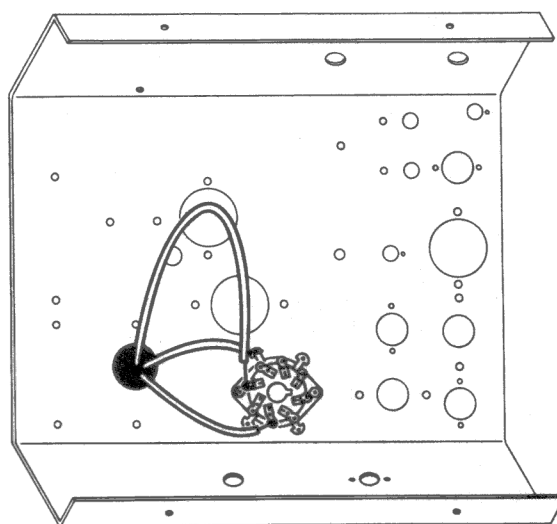
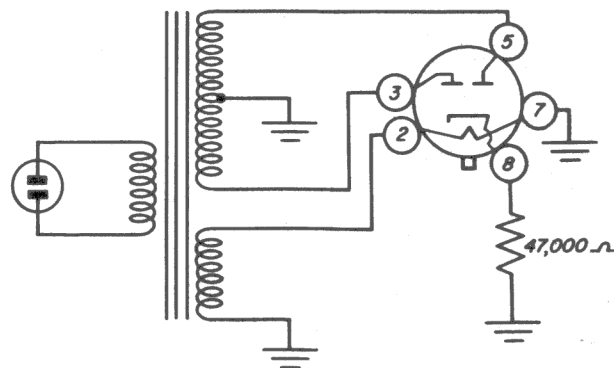

Fig. 17-11
Fig. 17-12
Step 1. Unsolder the free end of the high-voltage secondary from the terminal strip and solder it instead to terminal 5 of the tube socket. Do not cut it; use the entire length of wire and make a temporary connection. If this is correctly done, one red high-voltage secondary lead should be connected at terminal 3 and the other red high-voltage secondary lead to terminal 5 of the tube socket, while the red and yellow lead should still be connected to chassis ground. Your wiring should look like that shown in Fig. 17-11. The schematic diagram of the full-wave power supply is shown in Fig. 17-12. If the wiring is correct, proceed with the next step.